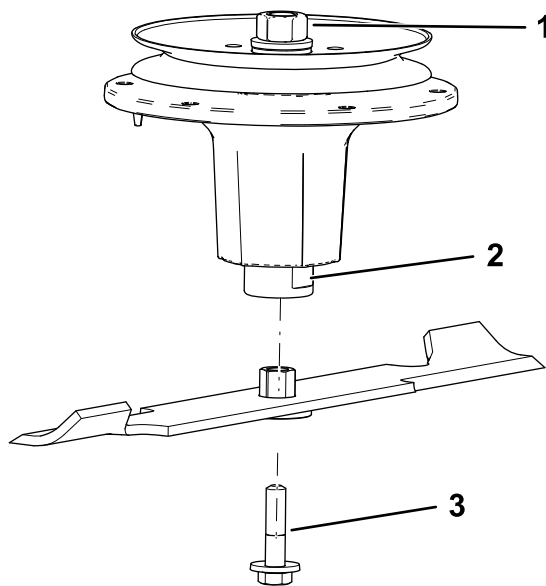

**Figure 111**
1. Install the bushing through the blade with the bushing flange on the bottom (grass) side of the blade (Figure 111).